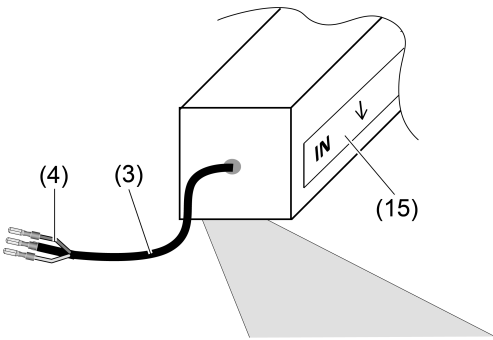

Figure 2: Beam direction of asymmetrical optics
- When mounting, note that there are two luminaire versions. The label on the luminaire (15) indicates the beam direction and the side on which the input cable is attached (Figure 2).